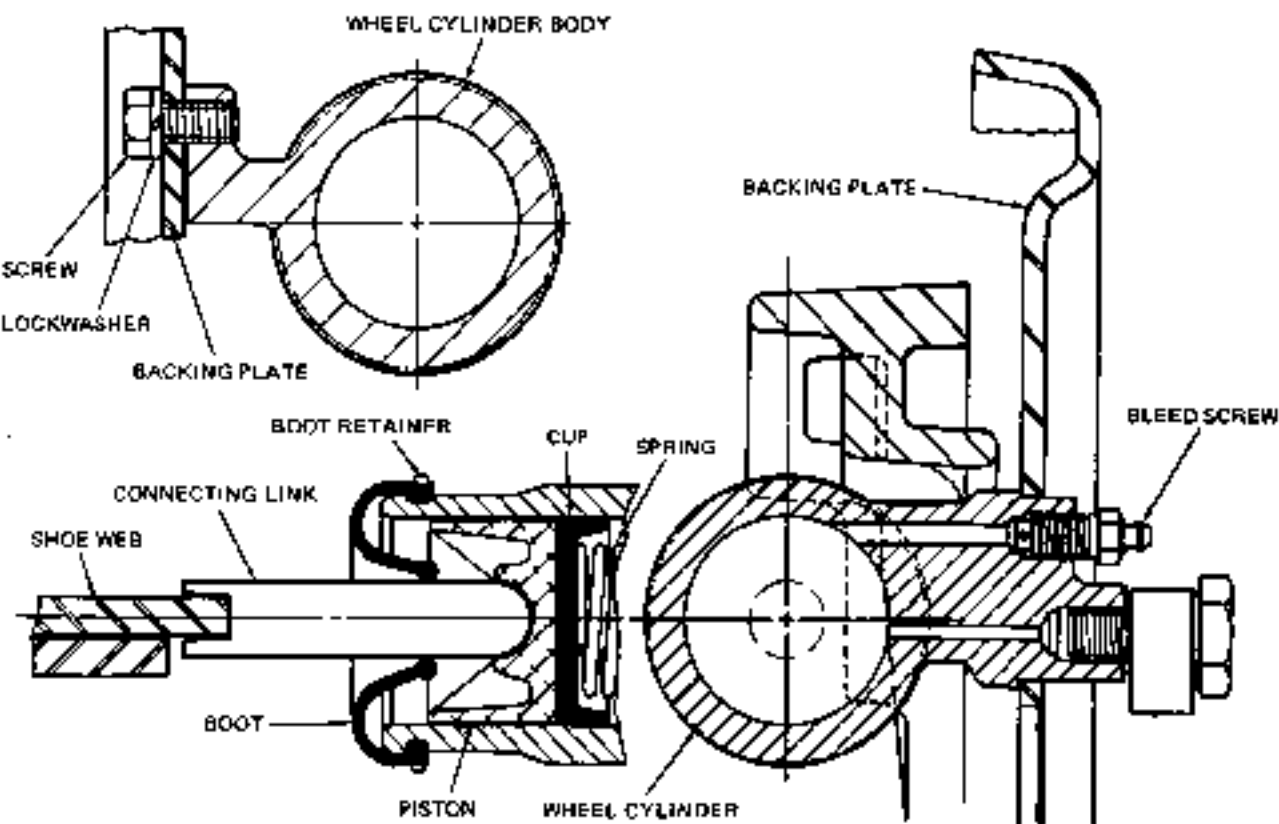

FIGURE J-18 - Cylinder Assembly
2. Install piston, cups and spring into cylinder body. Refer to Figure J-18. Do not nick lips of cups by pushing them across the inlet port hole.
7. Coat connecting links, Figure J-18, with brake fluid and insert into dust boot. Align slot of link so link will straddle shoe web.